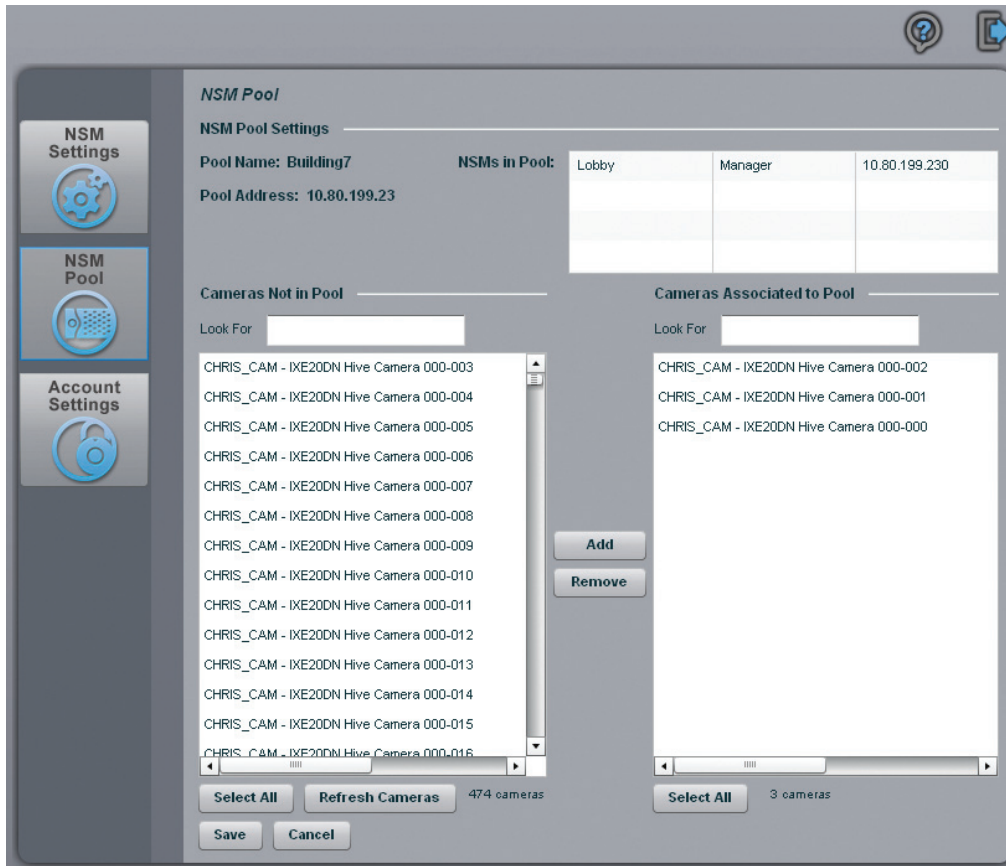

Figure 5. NSM Pool Settings Screen
1. Click the NSM Pool button (refer to Figure 5).